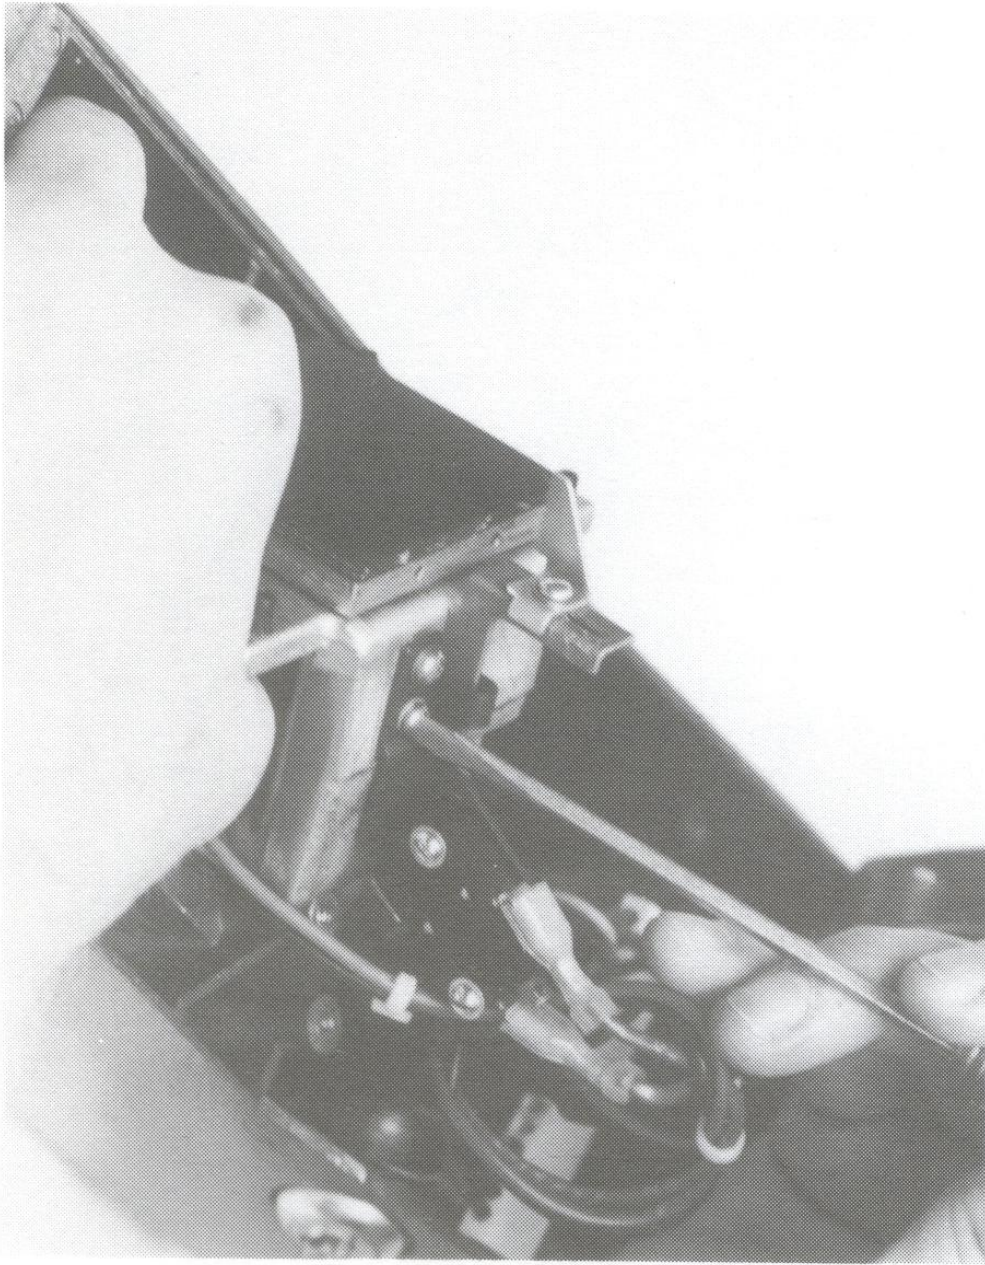

Figure 28
- Remove support plate mounting screws (*figure 28*).